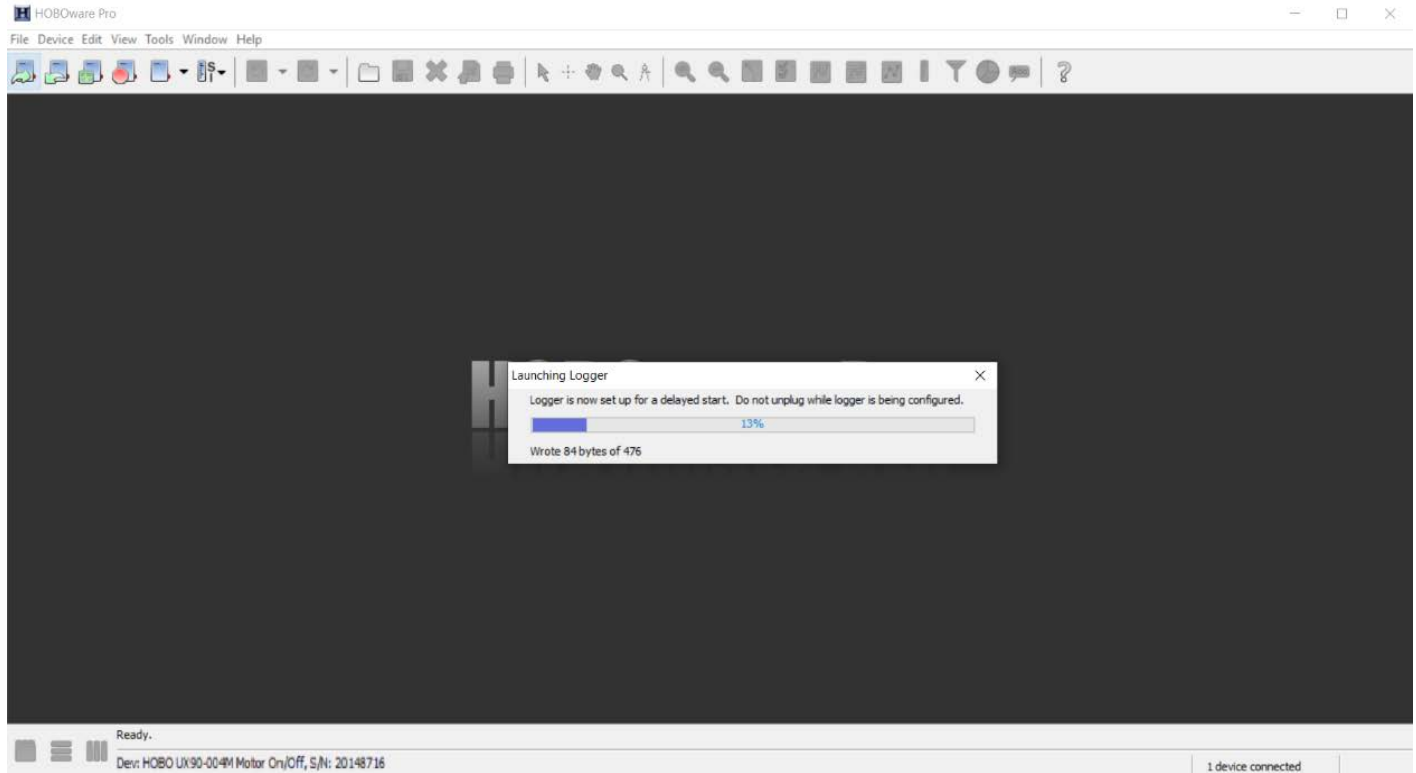

Figure A.1.7: Launching the logger using the HOBOWare software.
6. Click “Delayed Start” to complete the configuration process. Do not unplug the logger from the computer until deployment is complete as shown in Figure A.1.7.